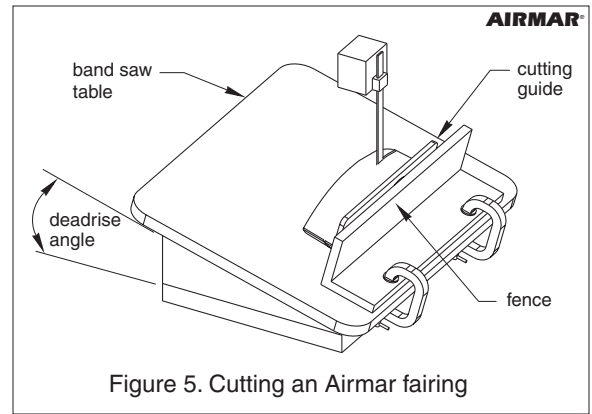

Figure 5. Cutting an Airmar fairing
2. Tilt the band saw table to the measured angle and secure the cutting fence (see Figure 5).
3. Place the fairing on the table so the cutting guide rests against the fence. The arrow will be pointing toward you for installation on the port side and away from you for installation on the starboard side of the boat (see Figure 5). *Be sure* to orient the fairing on the band saw so the angle cut matches the intended side of the hull and not the mirror image.